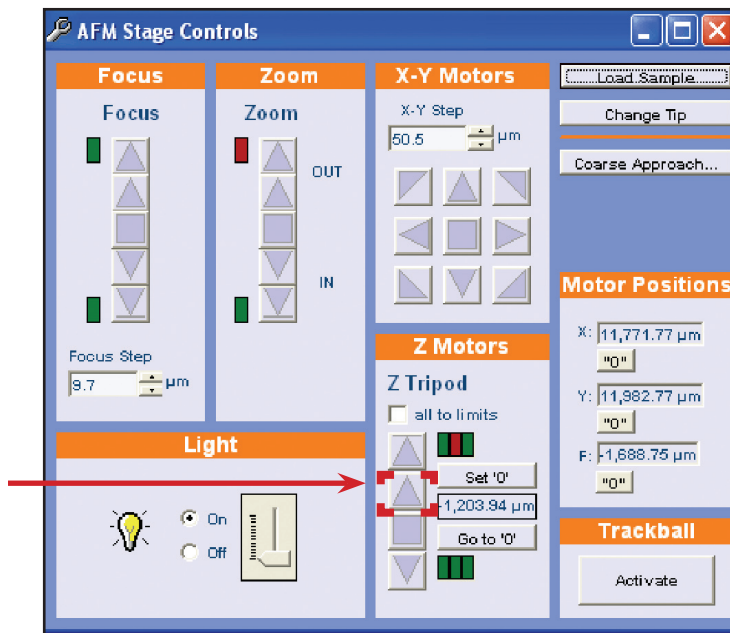

Figure 3.21: AFM Stage Controls -- Raise the probe tip away from the sample
- Click Up button to raise the Z motor until there is at least a few millimeters of clearance between the probe and the sample surface or puck, if no sample is loaded (monitor by eye). (Figure 3.21)